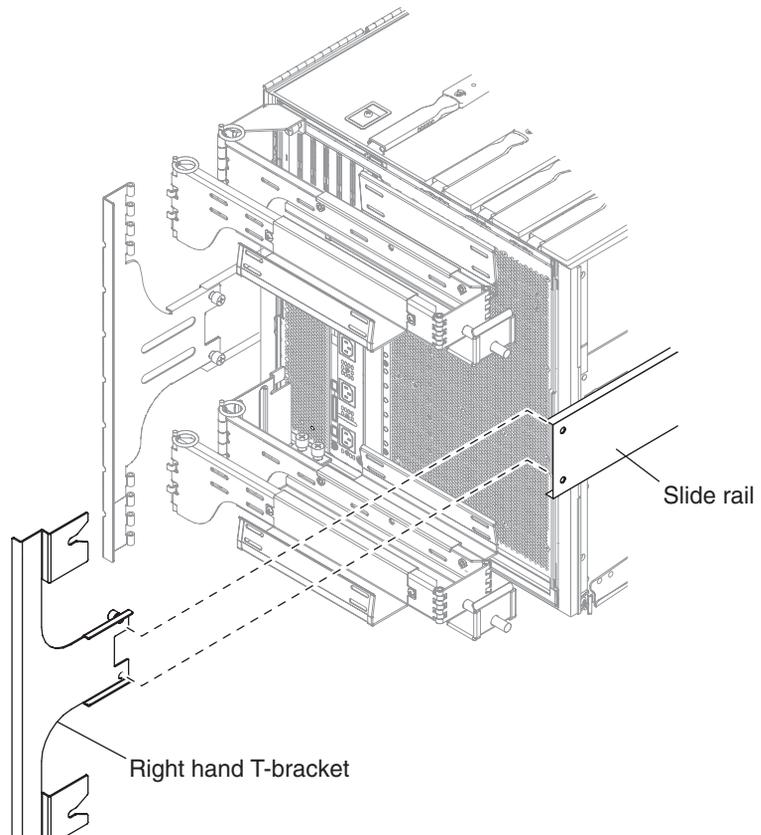

FIGURE 14-11 Attachment of Right-Hand T-Bracket
9. Secure the right hand T-bracket to the right hand slide rail using two captive screws, FIGURE 14-11.